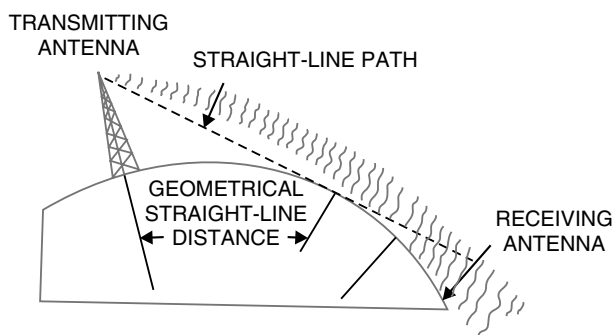

Fig. 14.18
**3. Space wave propagation (Line of sight propagation).** At frequencies above 30 MHz, radio transmission cannot be carried out by ground waves or sky waves. It is because ground waves are quickly attenuated at such high frequencies and at frequencies above 30 MHz, the ionosphere is unable to reflect the sky waves back to earth. Therefore, we use **direct waves** (also called **space waves**) which travel directly in straight lines from the transmitting antenna to the receiving antenna as shown in Fig. 14.18. This mode of propagation is called *space wave propagation* or *line of sight (LOS) propagation* or *tropospheric propagation*.